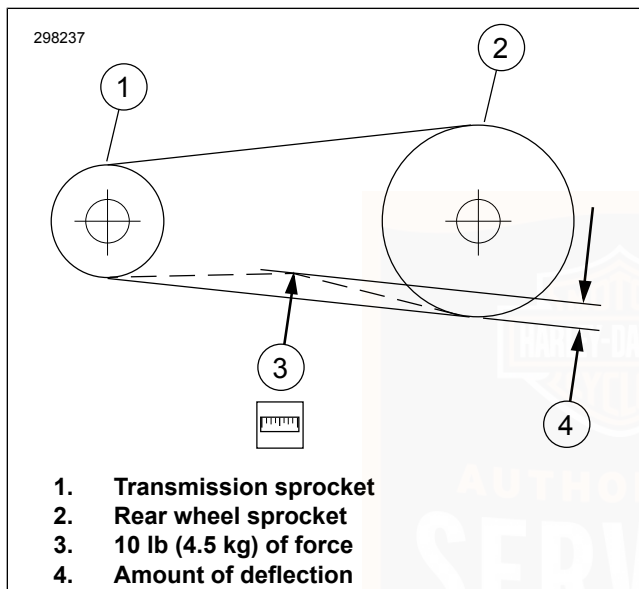

Figure 74. Checking Belt Deflection
- b. **All other models:** See Figure 74. Measure amount of deflection (4) while holding gauge steady.